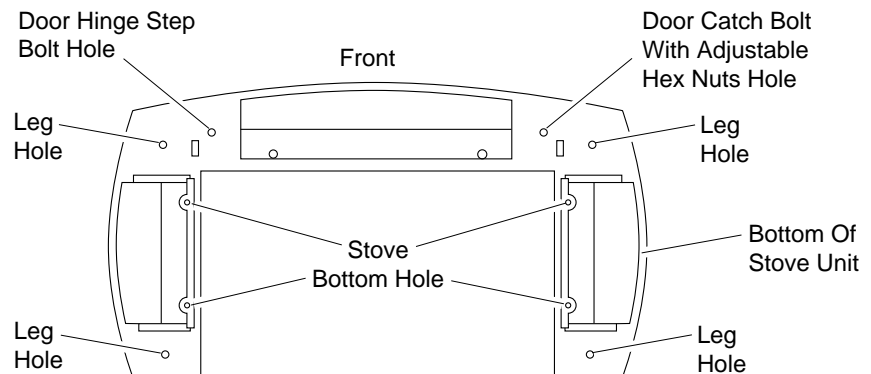
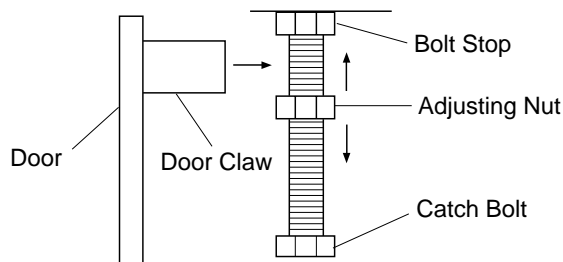

Figure 8 - Locating of Threaded Holes for Stove Bottom, Legs, and Door Attachment
Figure 12 - Catch Bolt and Door Claw Orientation
8. Fasten each leg to stove with four (4) M8 x 1.25 - 20mm bolts. Use a flat washer and lock washer with each bolt. Tighten bolts into threaded holes on stove body (see Figure 8 and 9). Use an adjustable wrench or a 12mm socket.
9. Fasten stove bottom to stove with four (4) M6 x 1 - 25mm bolts. Use a flat washer and lock washer with each bolt. Tighten bolts into threaded holes on stove body (see Figure 8 and 10). Use an adjustable wrench or a 10mm socket.
10. Attach stove door by inserting step bolt through door hinge pivot hole and into threaded hole in stove body (see Figure 8 and 11). Use an adjustable wrench or a 12mm socket to fasten step bolt. Tighten step bolt until snug. Make sure door moves freely.
11. Install door catch bolt (M8 x 1.25-55mm with two M8 hex nuts) into threaded hole on stove body (see Figure 8, page 10). Use an adjustable wrench or a 12mm socket. The catch bolt has two hex nuts attached to it (see Figure 12). The top nut is a bolt stop and the bottom nut is for door leveling adjustment.